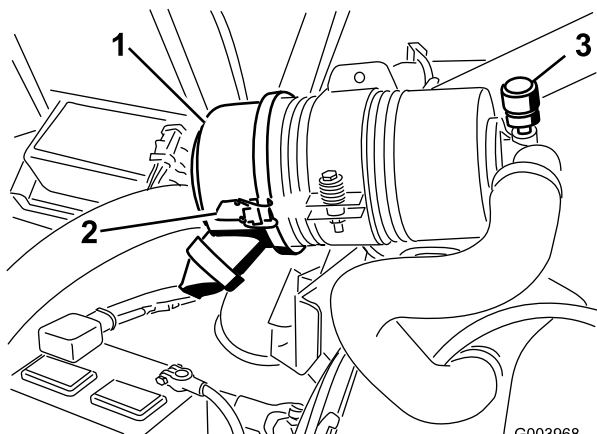

Figure 50
Service the air cleaner filter only when the service indicator (Figure 50) requires it. Changing the air filter before it is necessary only increases the chance of dirt entering the engine when the filter is removed.
1. Release the latches securing the air cleaner cover to the air cleaner body (Figure 50).